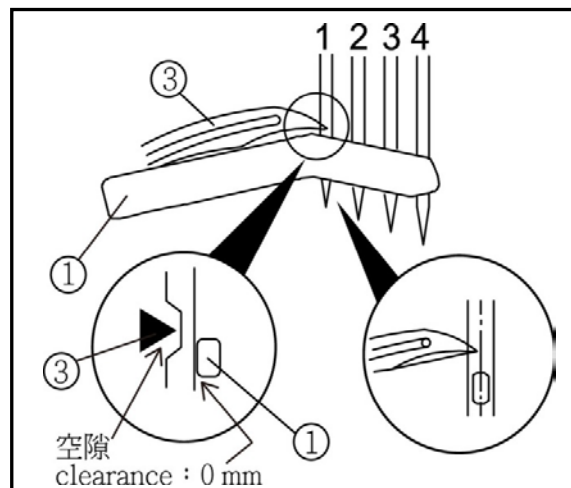

Fig. 52
Loosen screw ④ to adjust it. (Fig. 52 & 53)